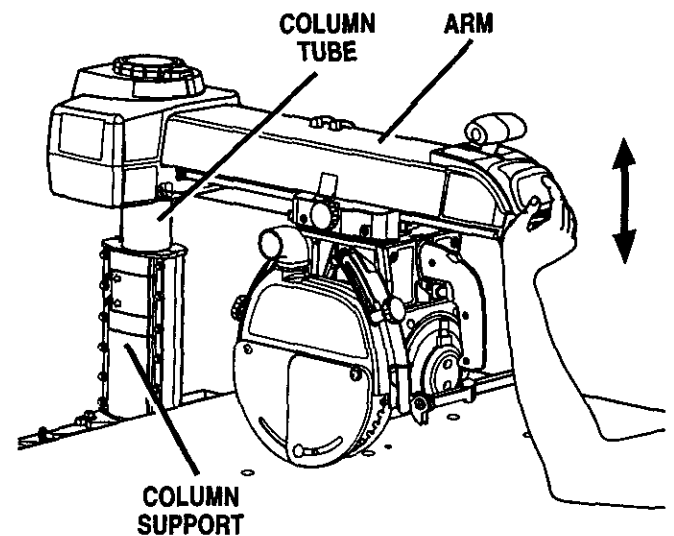

Fig. 20A
See Figures 20A - 20D.
- *Elevation check:* To check the elevation movement, place your hand under the front of the radial arm. Press upward on the radial arm. There should be no play between the column tube and the column support. The whole assembly should move as one. See Figure 20A.